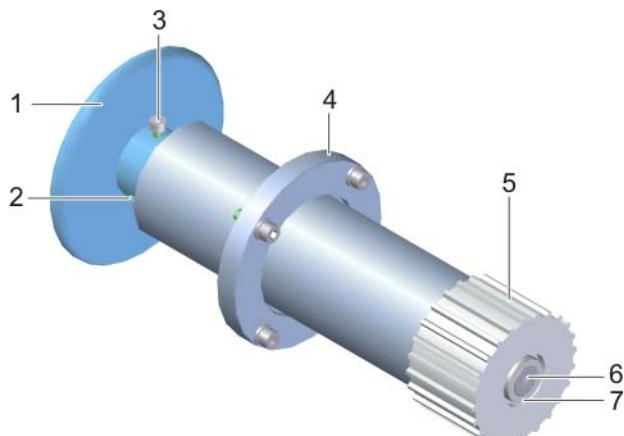

Fig. 8-12
- 10 Take the seal (2 in Fig. 8-12, Fig. 261) out of the sealing groove. Use a sealing extractor (5 in Fig. 8-13, Fig. 261) in order not to damage the seal and the sealing groove.